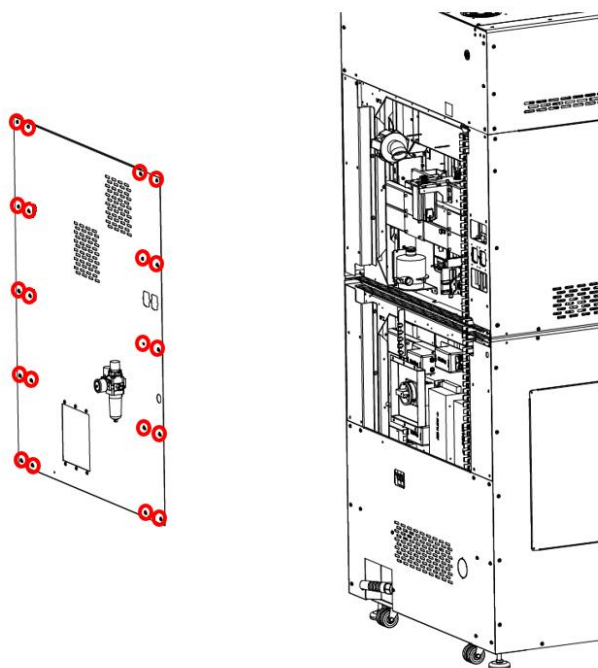

Fig. 121b Rear cover of the printer
6. For model F420: Remove the rear center cover by unscrewing the 20 retaining screws (Fig. 121b). Disconnect the ground point plug connecting the cover to the printer housing.